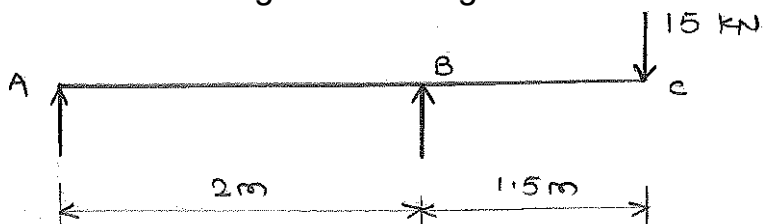

Fig. 3
- Draw the bending moment diagram for the beam shown in Fig. 3.